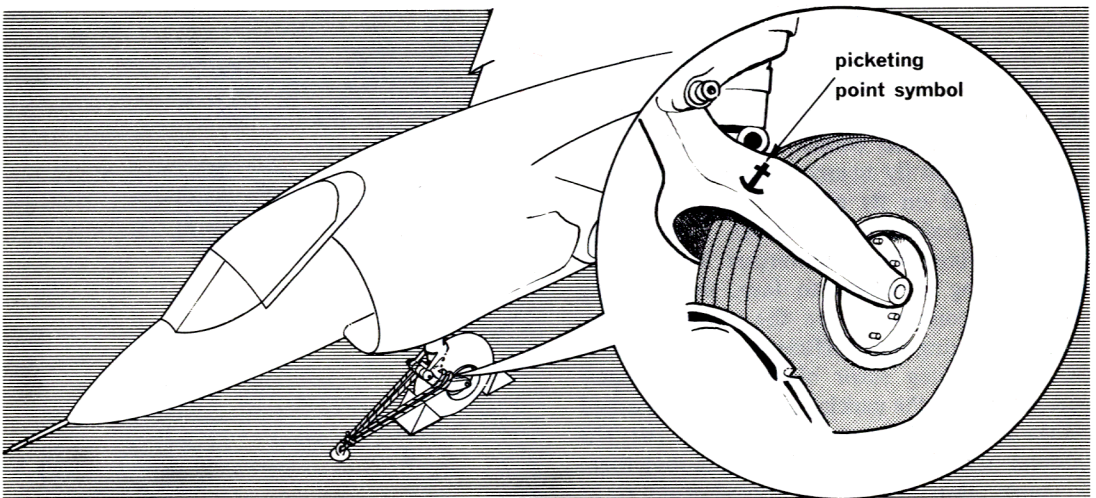

Fig. 8. Aircraft Picketing Point and Symbol
15. The aircraft's picketing points are simply holes or attachment lugs provided in the stronger parts of the airframe to which shackles, ropes, or chains can be secured. The main anchorages which support the full aerodynamic load are usually situated on, or near to, the aircraft's landing gear. Other points, which are provided in the wings and fuselage, are designed to keep the aircraft in its correct position over the base anchorages and to resist the snatching and buffeting of the aircraft in gusty weather conditions. The location of each aircraft picketing point is indicated by the standard anchor symbol painted in a colour which contrasts with the aircraft's camouflage (Fig. 8).